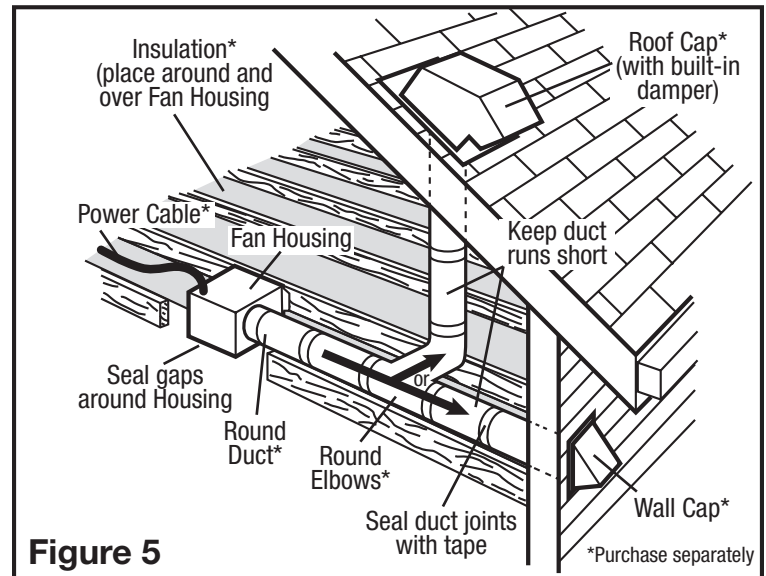

Figure 5
- Ensure duct joints and exterior penetrations are sealed with caulk or other similar material to create an air-tight path to minimize building heat loss or gain and to reduce the potential for condensation. Place/wrap insulation around duct and/or fan in order to minimize possible condensation buildup within the duct, as well as building heat loss or gain (Figure 5).